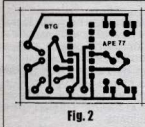

Fig. 2
- FIG. 2 - LAY OUT DO CIRCUITO IMPRESSO ESPECÍFICO -